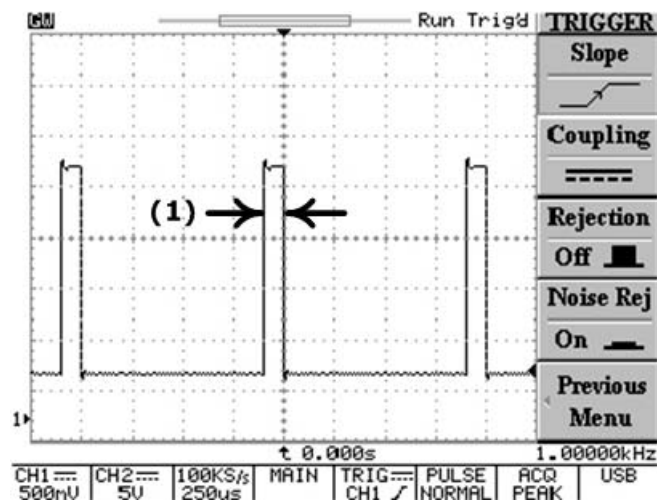

Figure 5-16: Pulse width trigger with positive polarity selected
(1): When positive polarity selected, the trigger will take place on the high to low transition of the pulse if the compare condition is match. See figure 5-16.